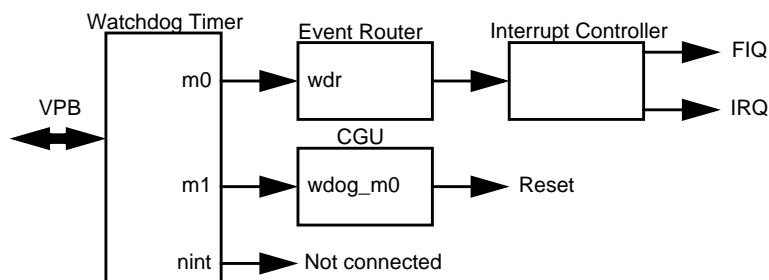

Fig.33 Watchdog timer in PNX0101
Fig.33 on page 276 shows how the Watchdog Timer is located in the PNX0101. The interrupt pin (nint) of this Watchdog Timer is not connected to the Interrupt Controller. Instead of this, two pins m0 and m1 (see Fig.33 on page 276 ) are used which will generate events. Pins m0 and m1 will generate events when their Match Registers matches the Timer Counter Register (TC).